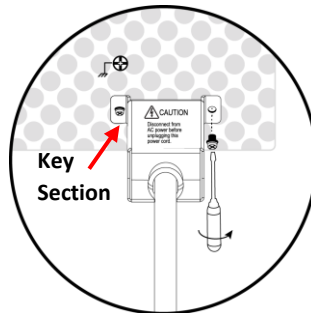

Figure 10 - Securing the power cable
- Using the (2) screws provided with the cable, secure the assembled connector to the back of the instrument as shown in Figure 10 – Securing. Note: Use only the screws provided.